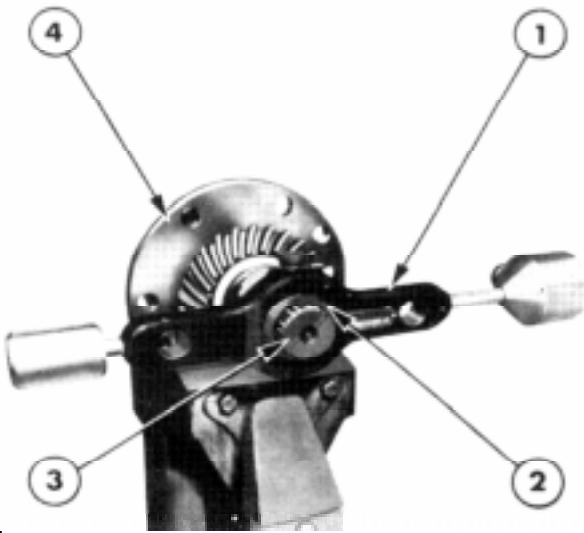

Figure 20
4. Now by using Gauge Tool No. EF-1300 with adaptor Tool No. EF-1100 adjust pre-load to 12-16 lbf.in. in or using spring balance Tool No. EF-1301, adjust to 16-21 lb.in. (7.2-9.5 kg.). Refer Figure 20 and 21.